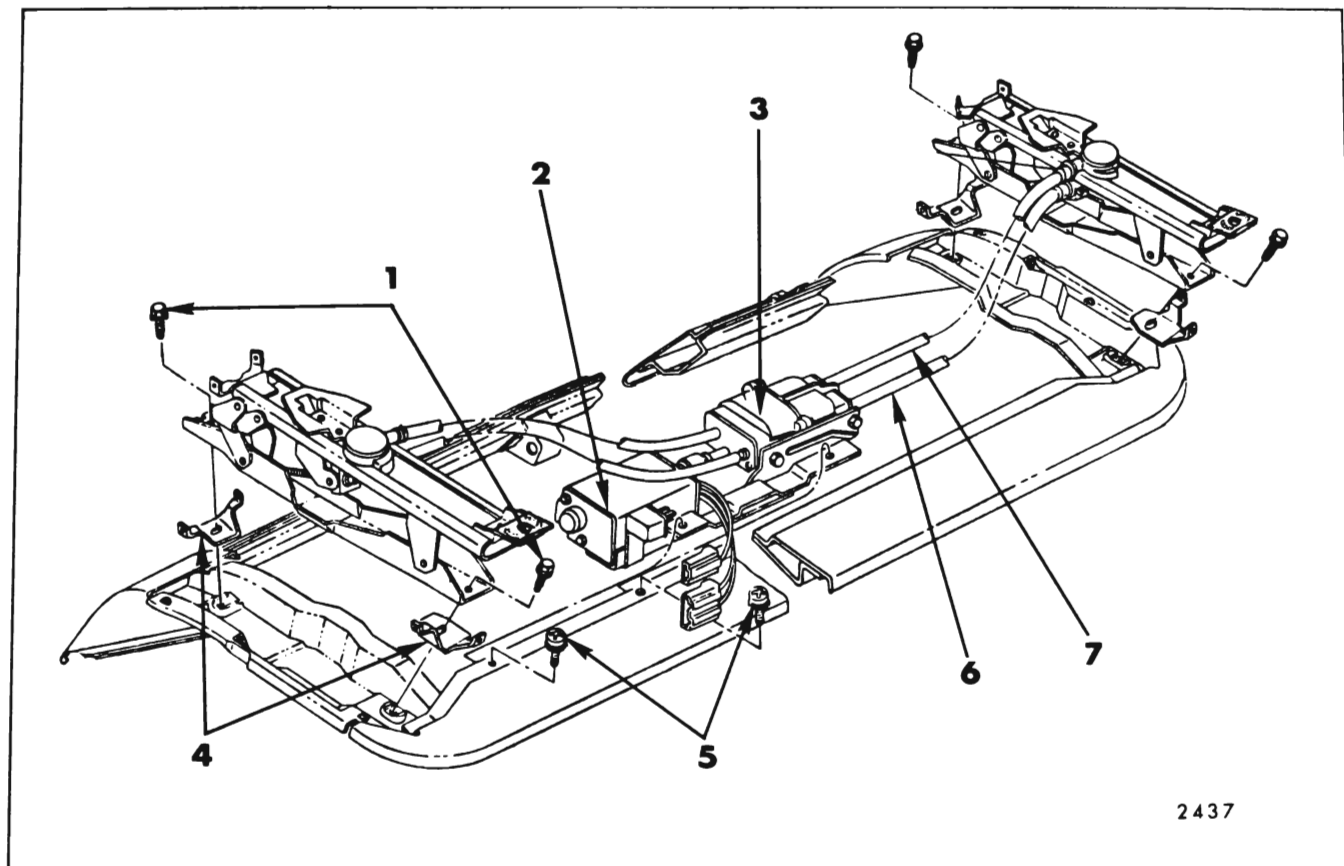

Fig. 15-6—Front Seat Assembly - Four-Way Tilt - "A" Styles
3. Remove screws securing motor and transmission support to seat bottom frame. (Fig. 15-6).
2. Remove seat adjuster-to-seat bottom frame front and rear attaching bolts on side affected (Fig. 15-6).
3. Remove screws securing horizontal and vertical cable end plate on side of transmission from which cables are being removed and remove cables from seat assembly (Fig. 15-6).